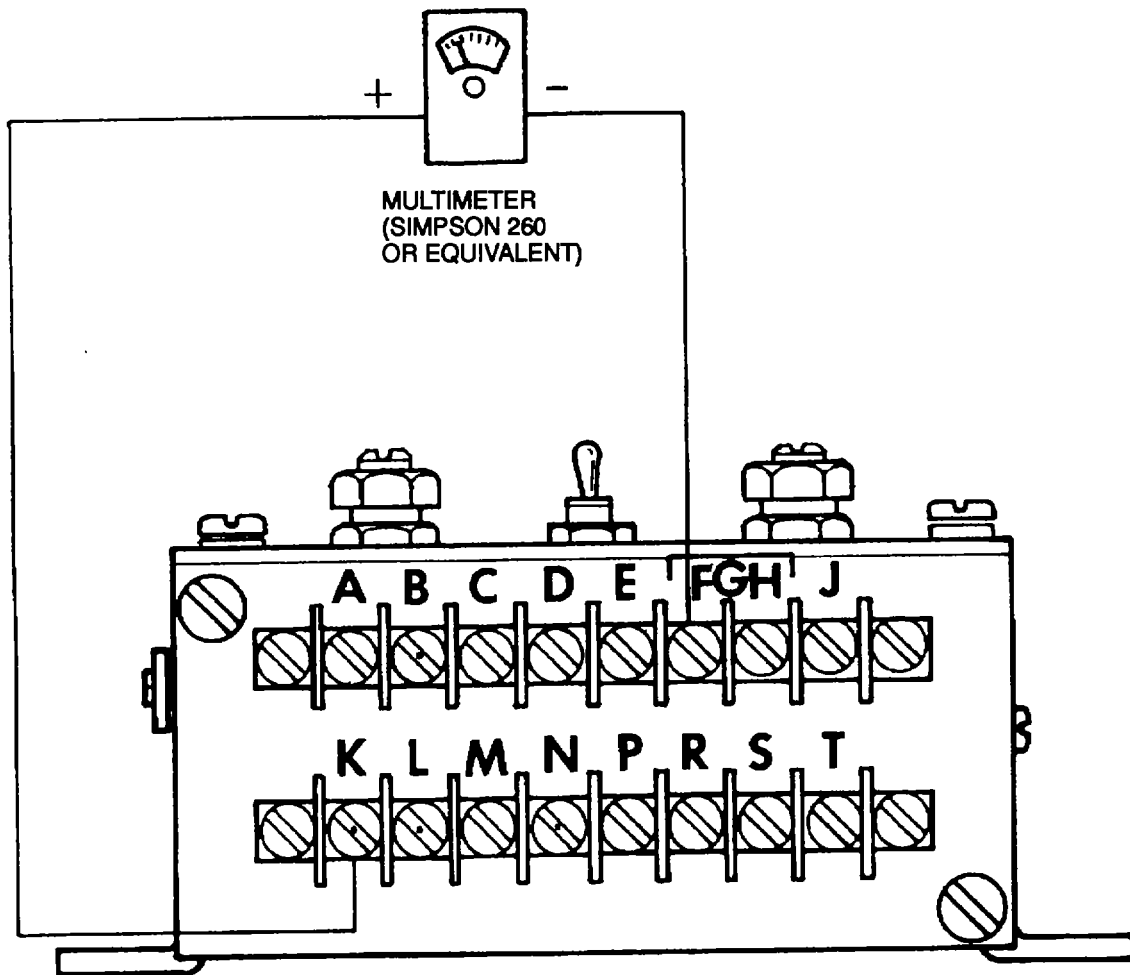

Figure 6-31. Test Setup (Typical), Electric Governor Control Unit
a. Electric Governor Control Unit See Figure 6-31.
- (1) Set 24 V dc CONTROL POWER CIRCUIT BREAKER CB1 to ON.
- (2) Using a multimeter set to 0 to 50 V dc scale, measure voltage from either of the two terminals identified as F G H to terminal K.
- (3) Multimeter should indicate 10.1 V dc.
- (4) Using a multimeter set to 0 to 10 V dc scale, measure voltage from either of the two terminals identified as F G H to terminal B.
- (5) Multimeter should indicate a maximum of 2.5 V dc.
- (6) Disconnect and tag wiring to fuel shutoff valve LI, located on the fuel injection pump.
- (7) While cranking the engine, the multimeter should indicate battery voltage.
- (8) Using a multimeter set to 0 to 10 V dc scale, measure voltage from either of the two terminals identified as F G H to terminal N while cranking the engine.
- (9) Multimeter should indicate 8.5 to 9.5 V dc.
- (10) Using a multimeter set to 0 to 10 V dc scale, measure voltage from either of the two terminals identified as F G H to terminal L while cranking the engine.